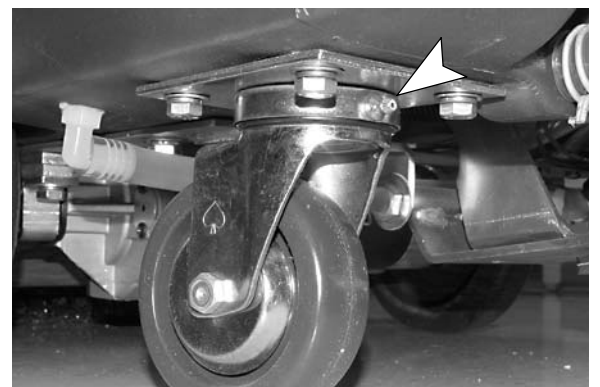

FIG. 41
3. Lubricate caster grease fittings with a water resistant grease (Figure 41).